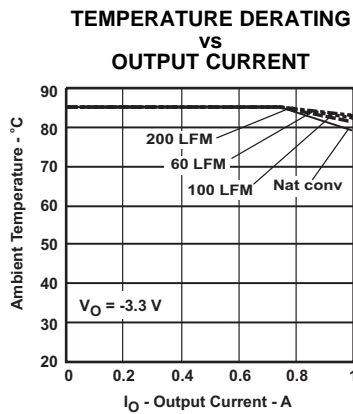
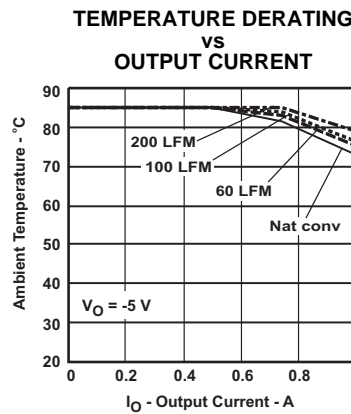
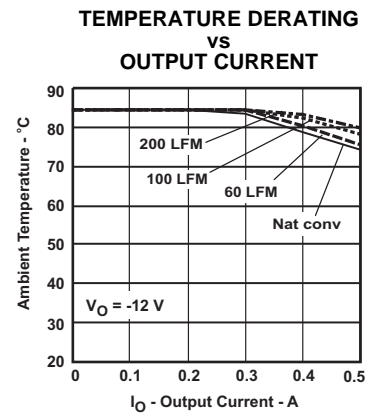
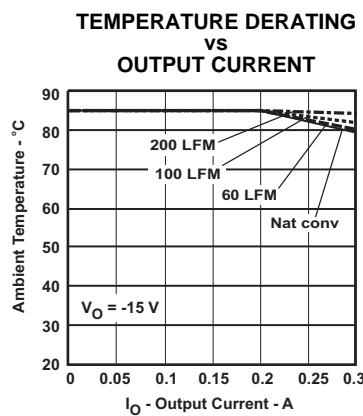

Figure 11.
Figure 12.
Figure 13.
Figure 14.
- (2) The temperature derating curves represent the conditions at which internal components are at or below the manufacturer's maximum operating temperatures. Derating limits apply to modules soldered directly to a 100-mm x 100-mm, double-sided PCB with 2 oz. copper. Applies to Figure 11, Figure 12, Figure 13, and Figure 14.